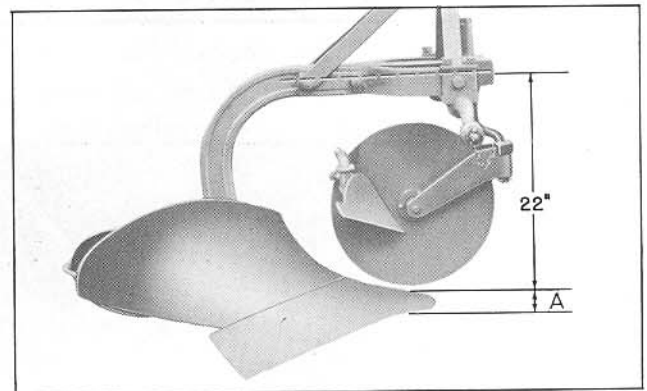

Fig. 23 Checking Single Bottom
5. Raise or lower the front of the plow beam until the distance from the center line of the bolt holes in the beam, Fig. 23, to the flat surface is equal to the measurement "A" plus 22 in.